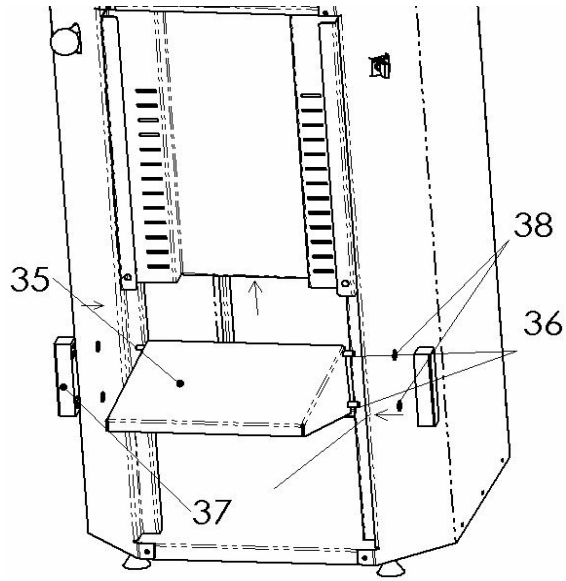

Figure 3-4
- 2) Insert the Can shelf Pivot Bars (36) x 2 through the holes in the Can shelf (35) (Figure 3-4).
- 3) Place a Nylon Washer (38) on each end of the two Can shelf Pivot Bars as required.
- 4) Fit the Nylon Block onto the assembly (37) (Figure 3-4), locating the Pivot Bar in the holes in the Nylon Block.
- 5) Holding the assembly together, slide the Nylon Blocks into the slots (Figure 3-4). Once the Nylon Blocks are fully inside the slots in the Front Panel, the assembly will be held together, simply raise the shelf until it locks in one of the notches in the Front Panel.